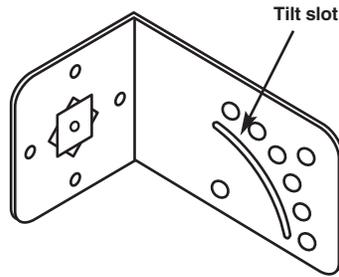

Figure 3-7. Tilt Slot.
5. Use the flat plate washer on the adjustable tilt slot to secure the antenna to the required elevation (see **Figure 3-7**).